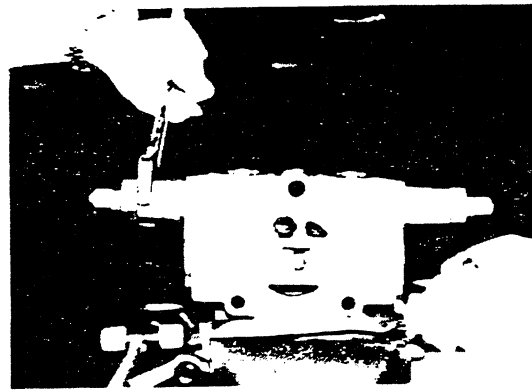

Fig. 5-18. Removing Relief Valve
- (10) Remove port relief valves (32) and (33) by turning them as shown in Fig. 5-18 after attaching an identification label (mating mark), since their set pressures are different.